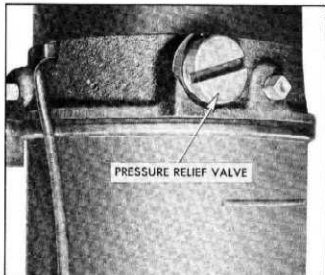

Fig. 57—Moraine Pressure Relief Valve
1. Disconnect positive terminal of battery and inspect pressure relief valve by removing plug, stop washers, and compression spring (fig. 57). Pressure adjustments may be made at the valve by adding washers to increase pressure or removing washers to reduce pressure.